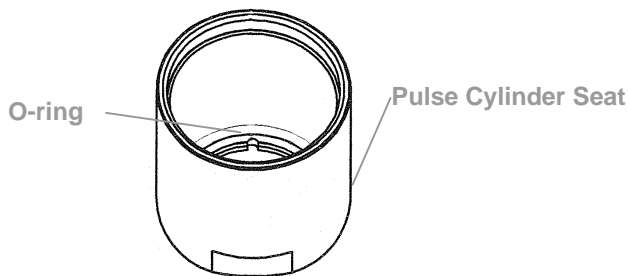

Fig. 98
4.1 Place the O-ring inside the bottom of the pulse cylinder seat, then combine the pulse cylinder seat with the assembled pulse cylinder unit. (Fig. 98, Fig. 99)